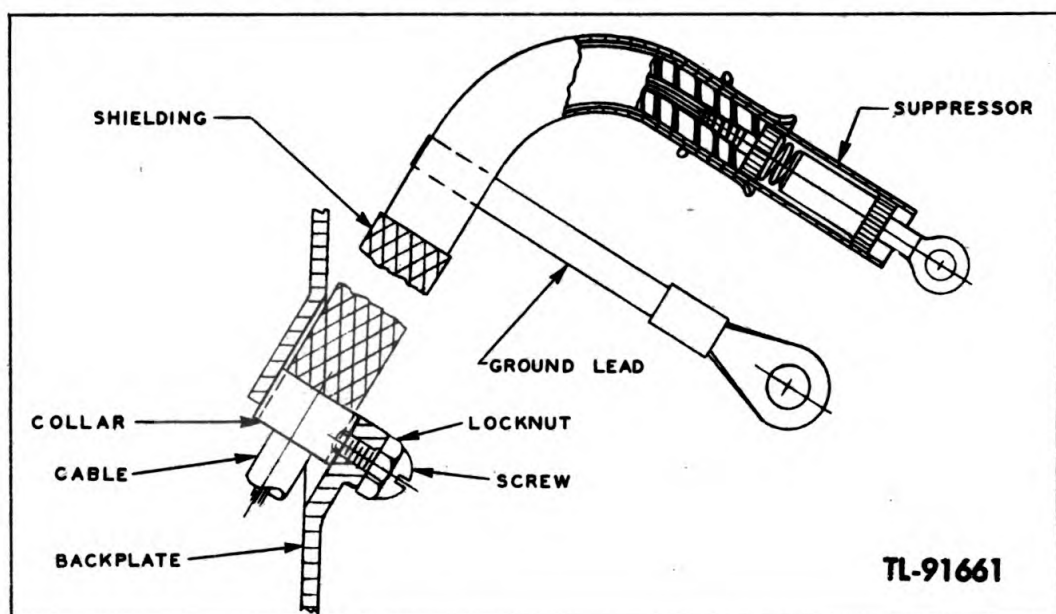

Figure 13. Magneto cable positioned in backplate
(1) Remove the ground lead screw from the spark plug shield cap.
(2) Press down the spring retainer and take off the cap.
(3) Remove the ground lead from the magneto cable shielding to the spark plug shield body.
(4) Remove cable lead from spark plug.
(5) Remove the magneto flywheel housing, then the starter pulley.
(6) Screw the flywheel removal tool onto the crankshaft. Tap the removal tool on the end until the magneto flywheel loosens up. At the same time, pull on the flywheel in the direction of removal to take advantage of any crankshaft end play. Remove the flywheel.
(7) Unfasten the wire end of the magneto cable from around the bracket in the coil. Loosen the screw and locknut at the back side of the magneto backplate (fig. 13) and withdraw the cable assembly.
(8) Unscrew the suppressor from the cable and withdraw the cable from the shielding assembly.
(9) Install a new cable in the shielding, first being sure the cable insulation is stripped back $\frac{1}{2}$ inch at one end. Twist the wire strands together.
(10) Insert the shielding through the opening in the magneto backplate so the collar is about flush with the boss (fig. 13).
(11) Tighten the small screw and locknut.
(12) Insert the wire end of the cable through the bracket on the coil. Bend the strands around so the cable cannot work out.
(13) Bring the cable and shield assembly forward between the cylinder and magneto backplate. Screw on the suppressor.
(14) Install the assembly on the spark plug and replace the cap and ground leads.
(15) Reassemble the flywheel, starter pulley, and flywheel housing.